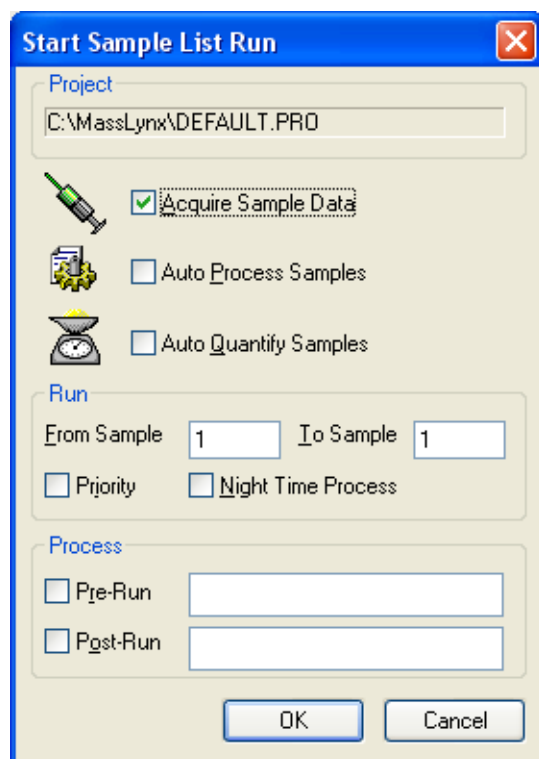

Figure 5-2 Start Sample List Run Dialog Box
2. Select Run > Start, or click  to open the Start Sample List Run dialog box (Figure 5-2).